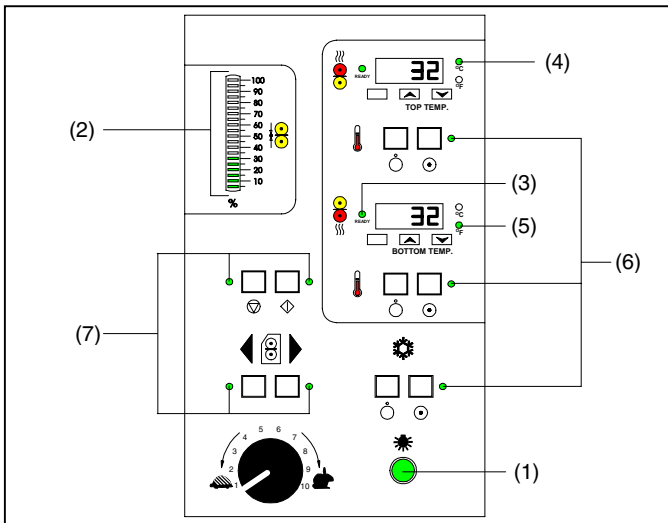
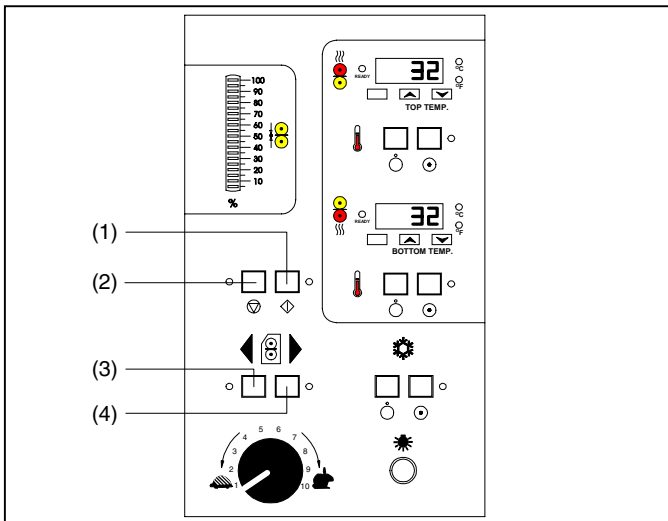

Fig. 6
Fig. 7
B. CONTROL PANEL INDICATORS: (Figure 6)
1. **POWER INDICATOR** : Illuminates when the laminator is plugged in and **POWER ON/OFF** is in the on, (I), position.
C. CONTROL PANEL BUTTONS: (Figure 7)